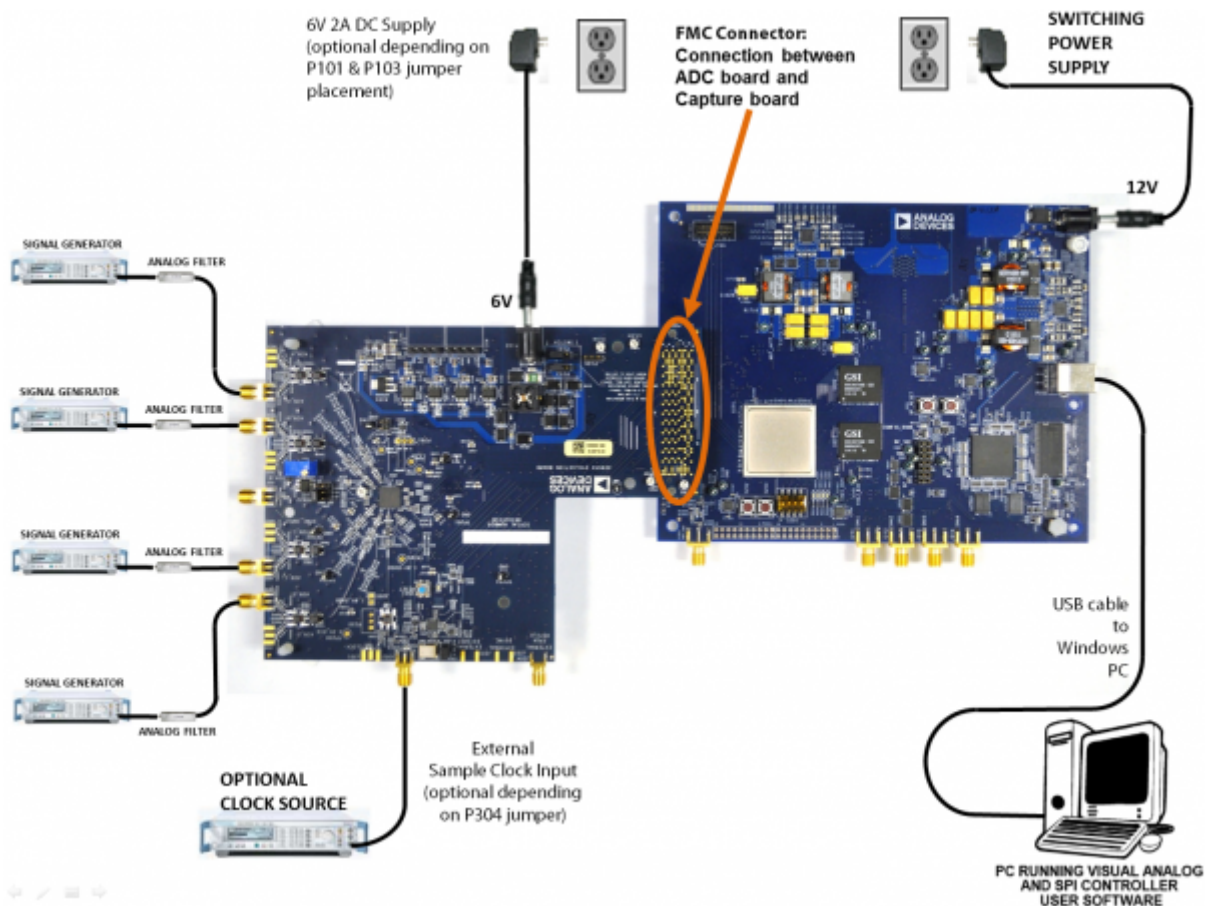

Figure 1. Evaluation Board Connection—AD9656EBZ (on Left) and HSC-ADC-EVALEZ (on Right)
1. Connect the evaluation board to the data capture board, as shown in Figure 1.
The evaluation board provides the support circuitry required to operate the AD9656 in its various modes and configurations. Figure 1 shows the typical bench characterization setup used to evaluate AC performance. It is critical that the signal sources used for the analog input and clock have very low phase noise (ideally ~100 fs rms jitter) to realize the optimum performance of the signal chain. Proper filtering of the analog input signal to remove harmonics and lower the integrated or broadband noise at the input is necessary to achieve the specified noise performance.